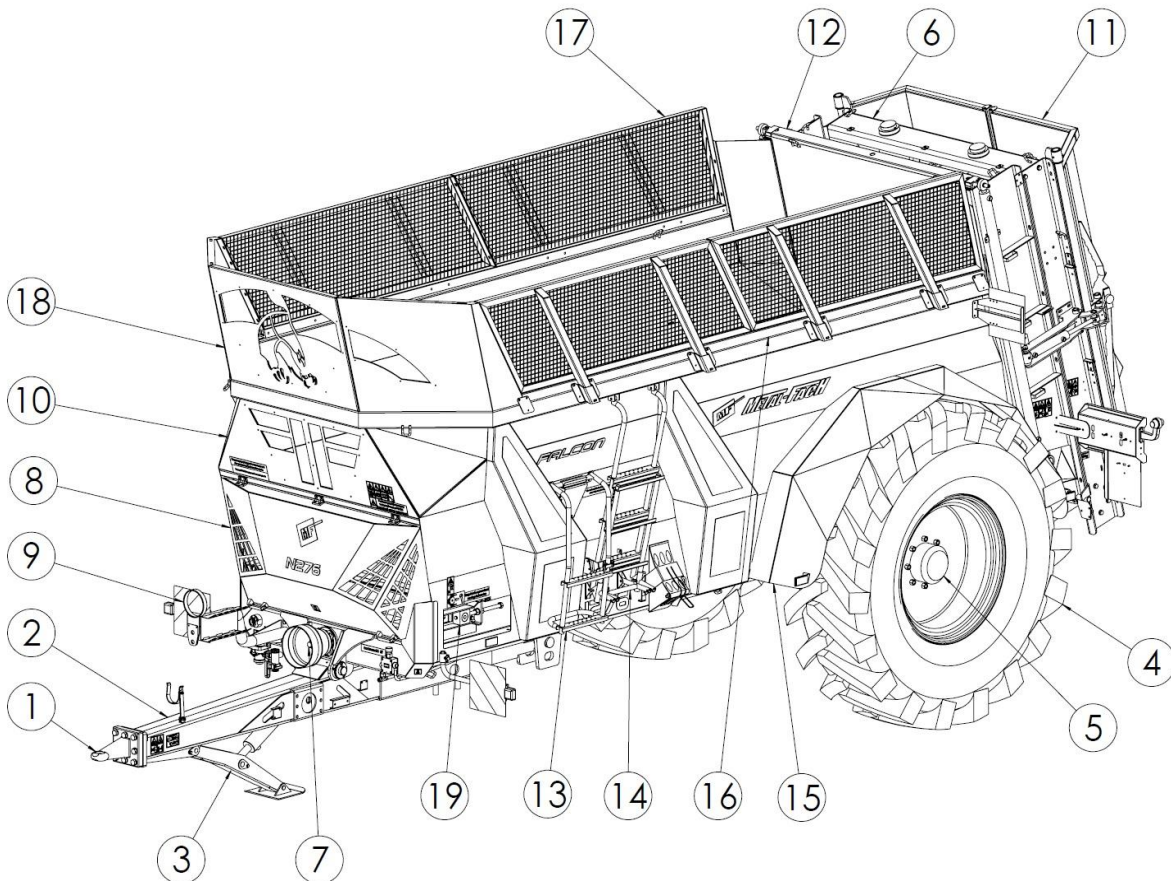

Fig. 8. General design of the manure spreader:
The components of the spreader are shown in Figure 8. The main structural components include a monocoque body (10) with a rigid single-axle wheelset (5). A sprung hitch equipped with a fixed drawbar eye (1) is used for connection with the tractor's lower hitch. It is also possible to mount the optional eye for a rotary and ball drawbar. The hydraulic or mechanical (option) parking jack (3) is attached to the drawbar to support the spreader when it is not connected to the tractor, and to adjust the drawbar's height during coupling.